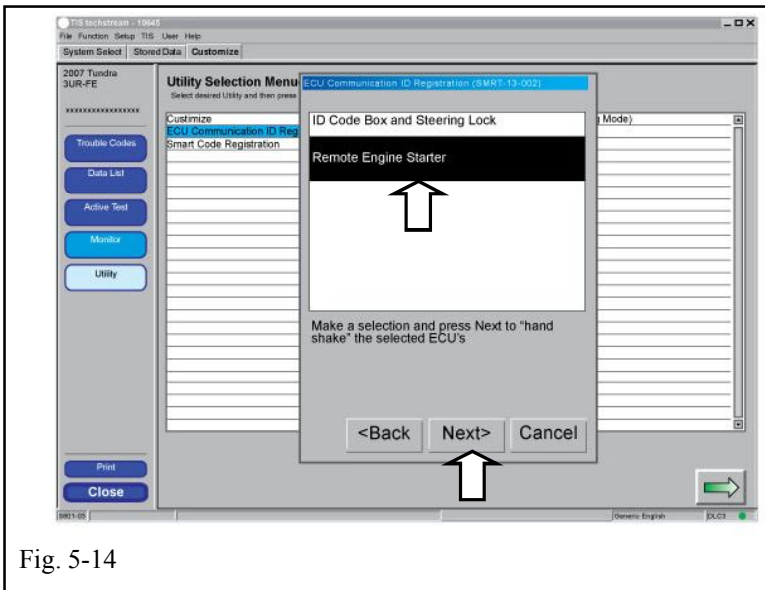

Fig. 5-14
- (aa) Select “Remote Engine Starter.” (Fig. 5-14)
- (bb) Click “Next>” to continue. (Fig. 5-14)